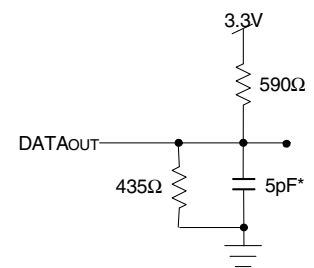

Figure 2. Output Test Load (for tLZ, tHZ, twZ, tow)
1. Transition is measured 0mV from Low or High-impedance voltage with Output Test Load (Figure 2).
- Transition is measured 0mV from Low or High-impedance voltage with Output Test Load (Figure 2).